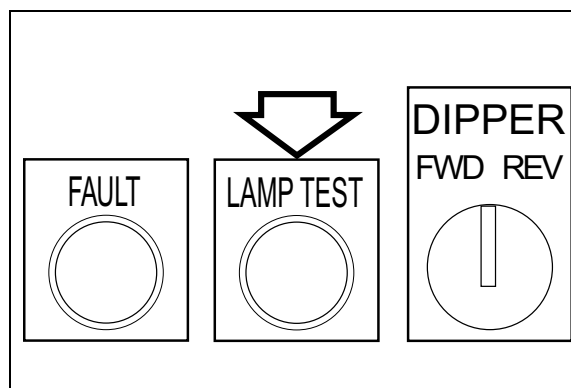

Figure 8-3: Lamp Test Push-button
4. Press the LAMP TEST push-button (Figure 8-3). All push-buttons will light to verify that all lamps are functioning. If a push-button fails to light, the bulb might need to be replaced, the wiring to the light checked, or the LAMP TEST button needs to be repaired.